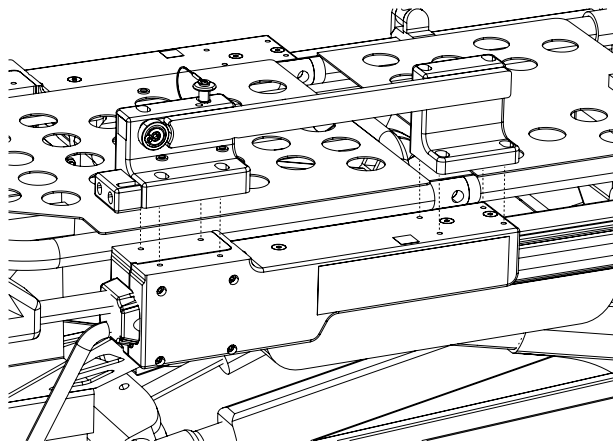

Figure 17: Rail system position on clamp block
2. Position the rail system on the clamp block, ensuring that the screw holes are aligned and that the rail system is facing outwards (Figure 17).